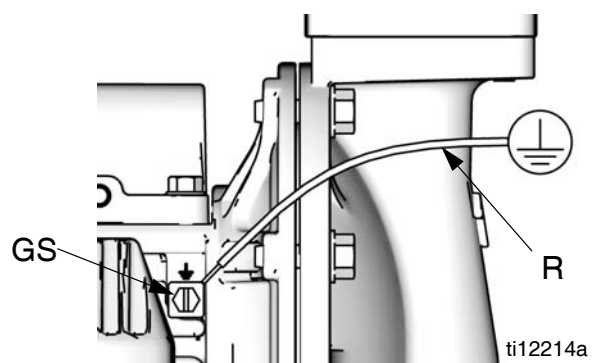

FIG. 1. Grounding screw and wire
Pump: See FIG. 1. Loosen the grounding screw (GS). Insert one end of a 12 ga. minimum ground wire (R) behind the grounding screw and tighten the screw securely. Connect the clamp end of the ground wire to a true earth ground. A ground wire and clamp, Part 819.0157, is available.